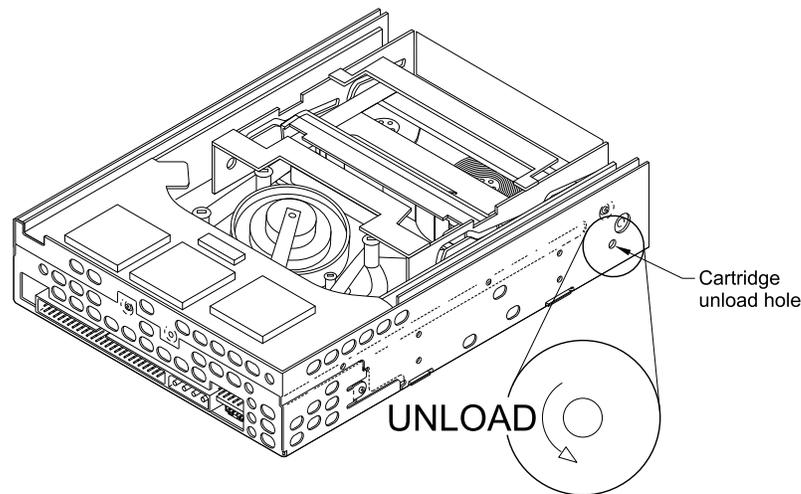

Figure 13 Readjusting the cartridge loader
1. Insert the ballpoint Allen hex driver into the cartridge unload hole on the left side of the tape drive (see Figure 13).